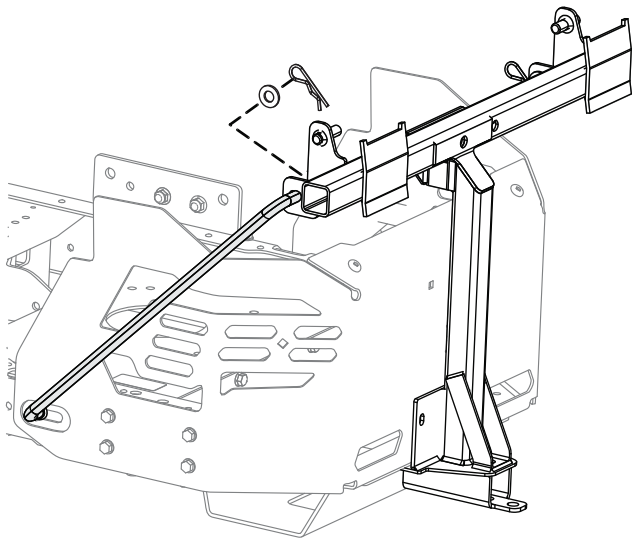

Figure 17
7. Install the bent, flared end of a rod into the keyed slot in the left side of the machine frame, and move the rod rearward to seat it in the frame (Figure 17).
- 8. Insert the bent ends of the rods into the attachment mount as shown in Figure 17 and secure the end of each rod with a washer and hairpin cotter.